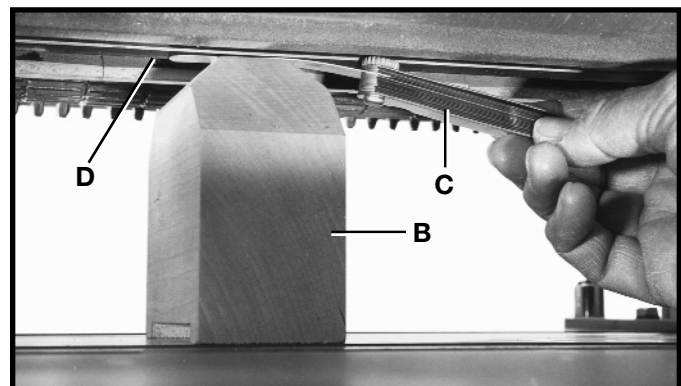

Fig. 38
3. Place gage block (B) Fig. 38, on the table surface and directly under the cutterhead as shown. Using a .040 feeler gage (C) Fig. 38, placed on top of the gage block, raise the table until cutterhead knife (D) touches the feeler gage when the knife is at its lowest point. **DO NOT MOVE THE TABLE ANY FURTHER UNTIL THE ADJUSTMENT HAS BEEN COMPLETED.**